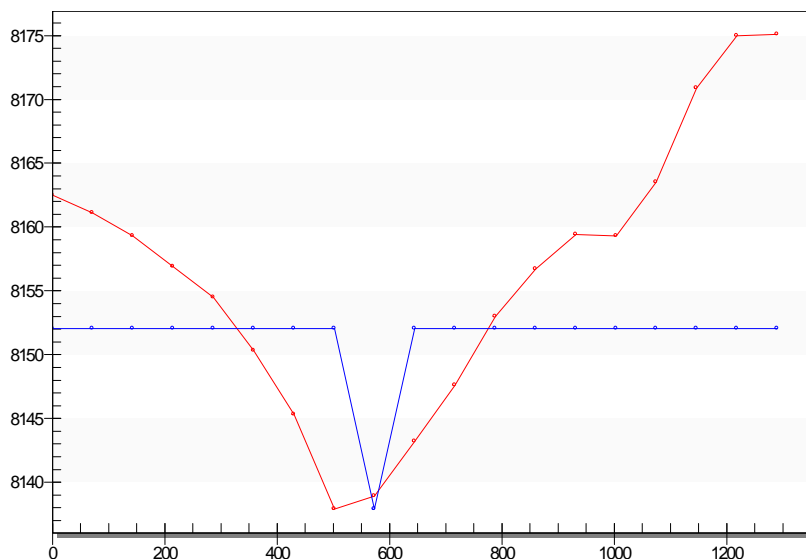

Figure 4-2: DEM Elevation Profile Plot
10. Select the *Snap roadway profile to culvert* option. The DEM elevation profile plot should look similar to Figure 4-2.